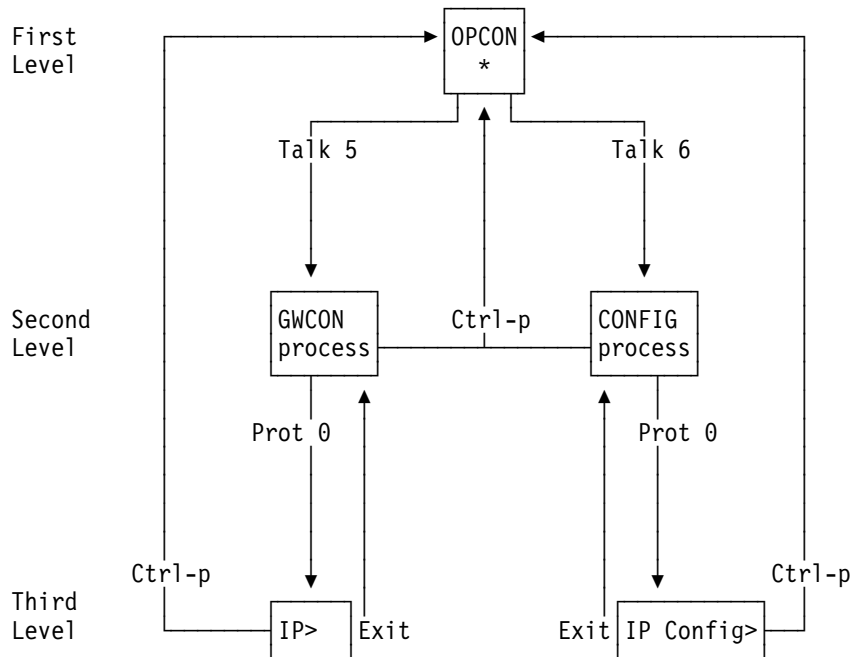

Figure F-1. Structure of the Command Line Interface (with the protocol command as an example)
**Answer** The structure of the interface is shown in Figure F-1 on page F-2.